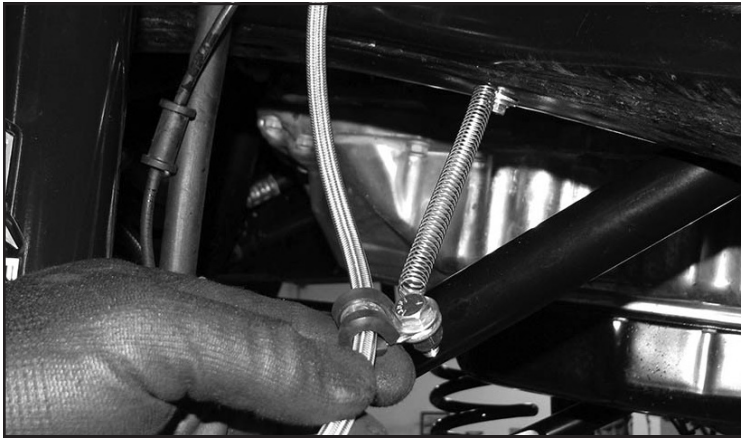

FIGURE 31 - STEP 28
28. Mount the opposite end of the spring to the frame using the supplied TEK screw and washer. **SEE FIGURE 31**